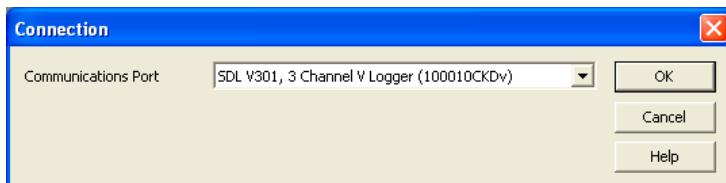

Figure 2-1
- The Sentinel Control Panel will open and the **Connection** window will appear (see Figure 2-1).
! NOTE: If the Automatically connect option is checked in the **Tools > Control Panel Options** dialog box, the **Select Instrument** window (similar to Figure 2-1) will appear instead.